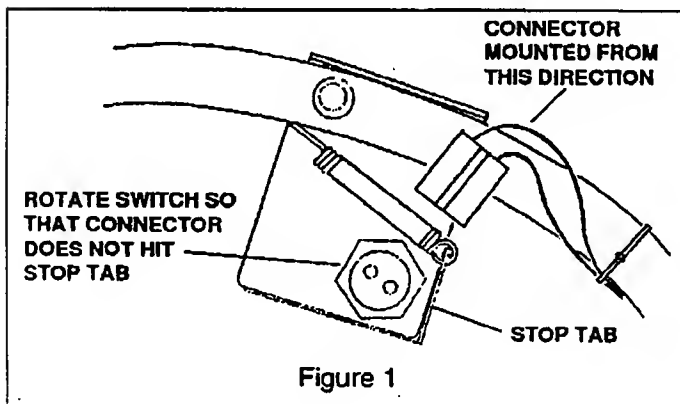

Figure 1
4. Route the operator presence interlock wires up the left handle tube and attach the connector to the switch as shown. Be certain that the connector does not hit the safety lever stop tab, if it does, rotate the switch to the position shown (see figure 1).